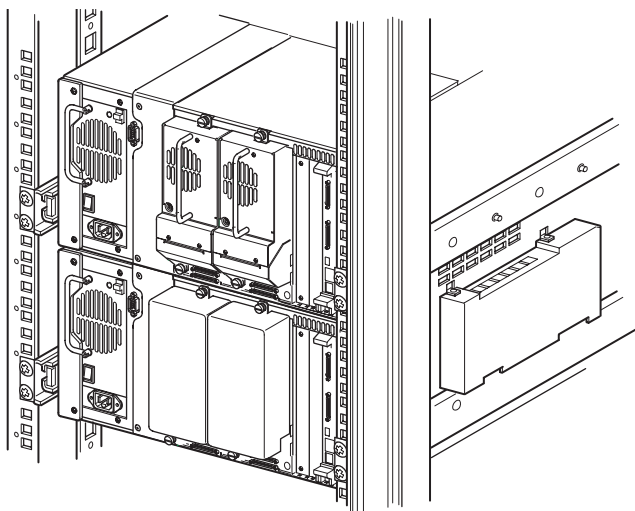

Figure 2-3. Library installation
1. Install two libraries, as shown in Figure 2-3, following the instructions in the *Compaq StorageWorks MSL5026 Library Overview and Installation or Rackmount Conversion Kit*.